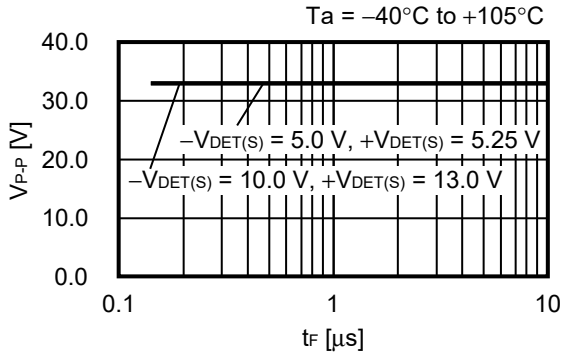

Figure 53  $C_N = 3.3 \text{ nF}$
Figure 53 and Figure 54 show the relation between  $V_{DD}$  amplitude ( $V_{P-P}$ ) and input voltage falling time ( $t_F$ ) where the arbitrarily set detection delay time accuracy can be maintained when the  $V_{DD}$  pin ( $V_{DD}$  detection product) sharply drops.
**Caution** Figure 53 and Figure 54 show the input voltage conditions which can maintain the detection delay time accuracy. If the voltage whose  $V_{P-P}$  and  $t_F$  are larger than these conditions is input to the  $V_{DD}$  pin ( $V_{DD}$  detection product), the desired detection delay time may not be achieved.